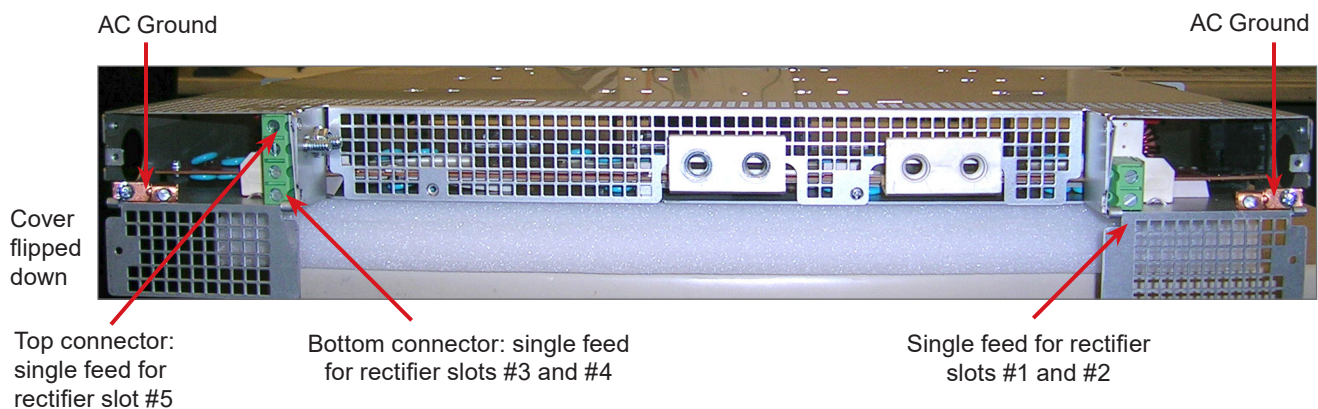

Figure 9 — AC Input and Ground for 23" Shelf
2. At the rear of the shelf, remove screw and flip the cover down (two places) to access the AC input terminal blocks: each terminal pair corresponds to either two rectifiers or a single rectifier as shown in Figure 9.
4. Secure the wires to the AC input and AC ground terminals (15 in. lbf) and AC ground terminal (35 in. lbf). Refer to Figure 9 and customer connection drawing #0300057-08 and #0300216-08 at the end of the manual.